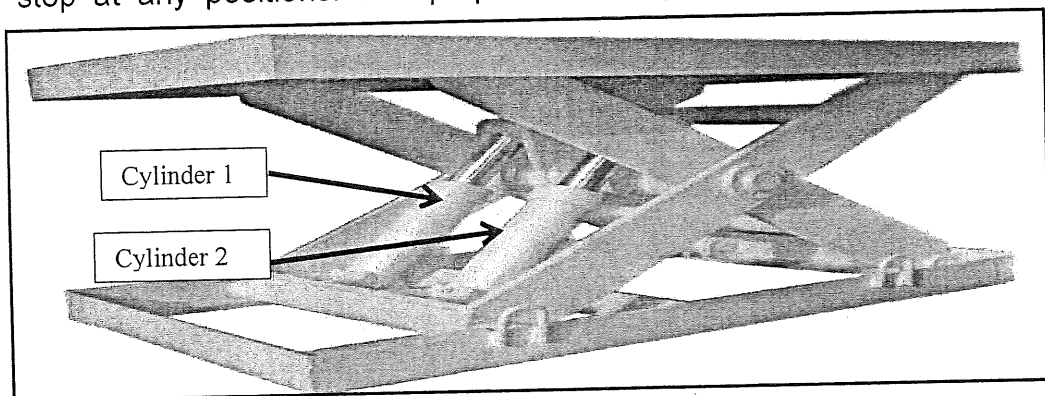

Figure 3
b) Figure 3 shows a hydraulic car lifting machine, when the 4/3 way valve is activated to the right the two cylinders (cylinder 1 and cylinder 2) will extend and if the 4/3 way valve is activated to the left, the two cylinders will be retracted, and if the 4/3 way valve is centered position, the two cylinders will stop at any positions. The purpose of using a 4/3 valve neutral at mid